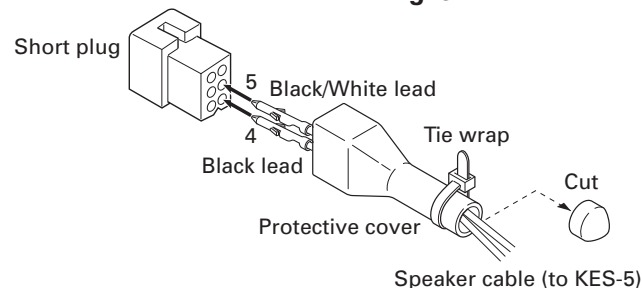

Fig. 3-3
4. Reinsert the terminal with the black and white stripe lead into hole number 5, and the terminal with the black lead into hole number 4 (Fig. 3-3).